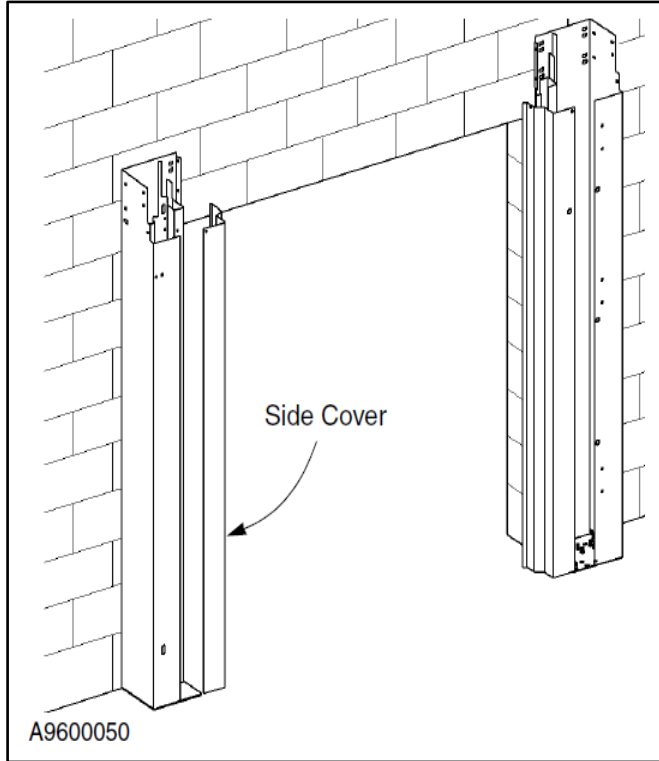

Figure 93
4. Attach the left and right hand side covers. (See Figure 93.)